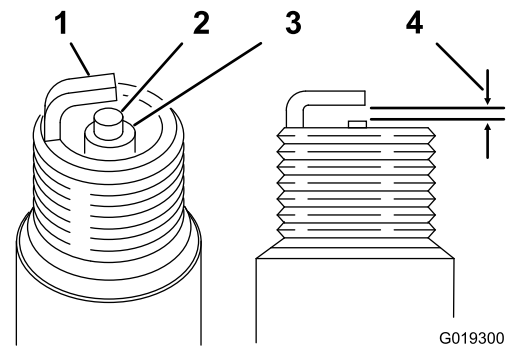

Figure 18
3. Set the air gap to 0.70 to 0.80 mm (0.028 to 0.031 inch) (Figure 18).